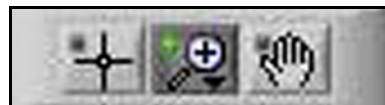

Figure 70: Graph Tools
3. There is a series of Graph Tools available at the top left of the trend plot area (see *Figure 70* below).